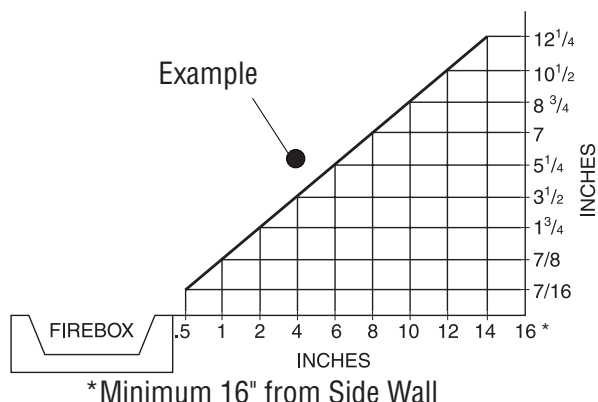

Figure 2 - Minimum Clearance for Combustible to Wall
Minimum Wall and Ceiling Clearances (see Figure 2)
A. Clearances from the side of the fireplace cabinet to any combustible material and wall should follow diagram in Figure 2.
Example: The face of a mantel, bookshelf, etc. is made of combustible material and protrudes 3 1/2" from the wall. This combustible material must be 4" from the side of the fireplace cabinet (see Figure 2).